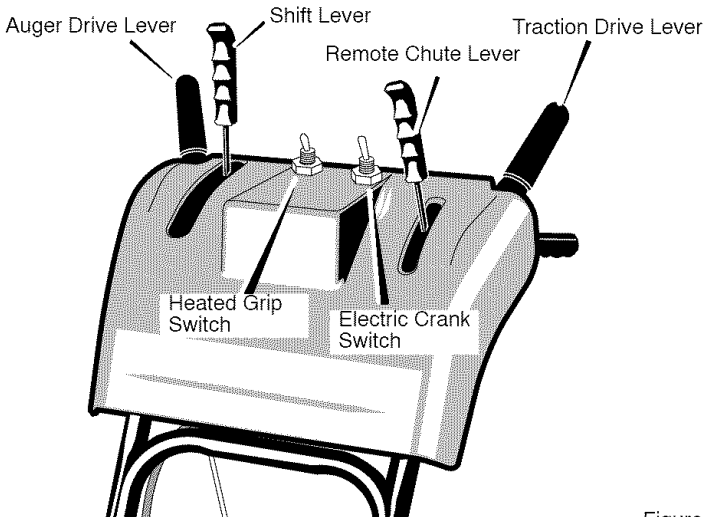

Figure 14
1. To stop throwing snow, release the **auger drive lever**. See Figure 14.
1. Push down the auger driver lever (**right hand**). See Figure 14.
degrees, use the heated grips to keep your hands warm. Move the **heated grip switch** to the ON position (see Figure 14). It will take a couple of minutes for the grips to become warm. Because heated grips can become very warm, we recommend that you wear gloves. If you notice that the grips are too warm, turn off heated grips.